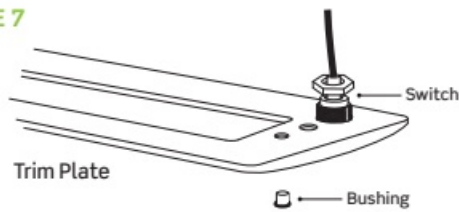

FIGURE 8
4. Use screwdriver to open Front Cover for access to Supply Wires and Connectors (Figure 8). Connect Battery to Main Board (Battery must be connected before connecting AC power). Assemble Test Switch and LED Indicator with Bushing into End Cap.